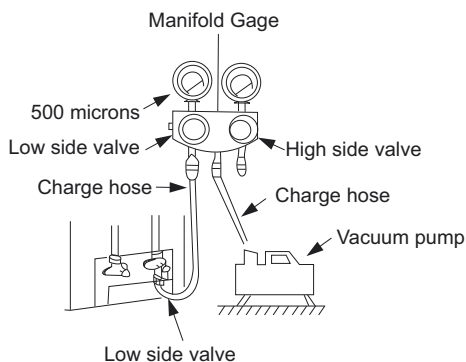

Fig. 10 – Manifold
3. Fully open the low side of manifold gage (see Fig. 10).